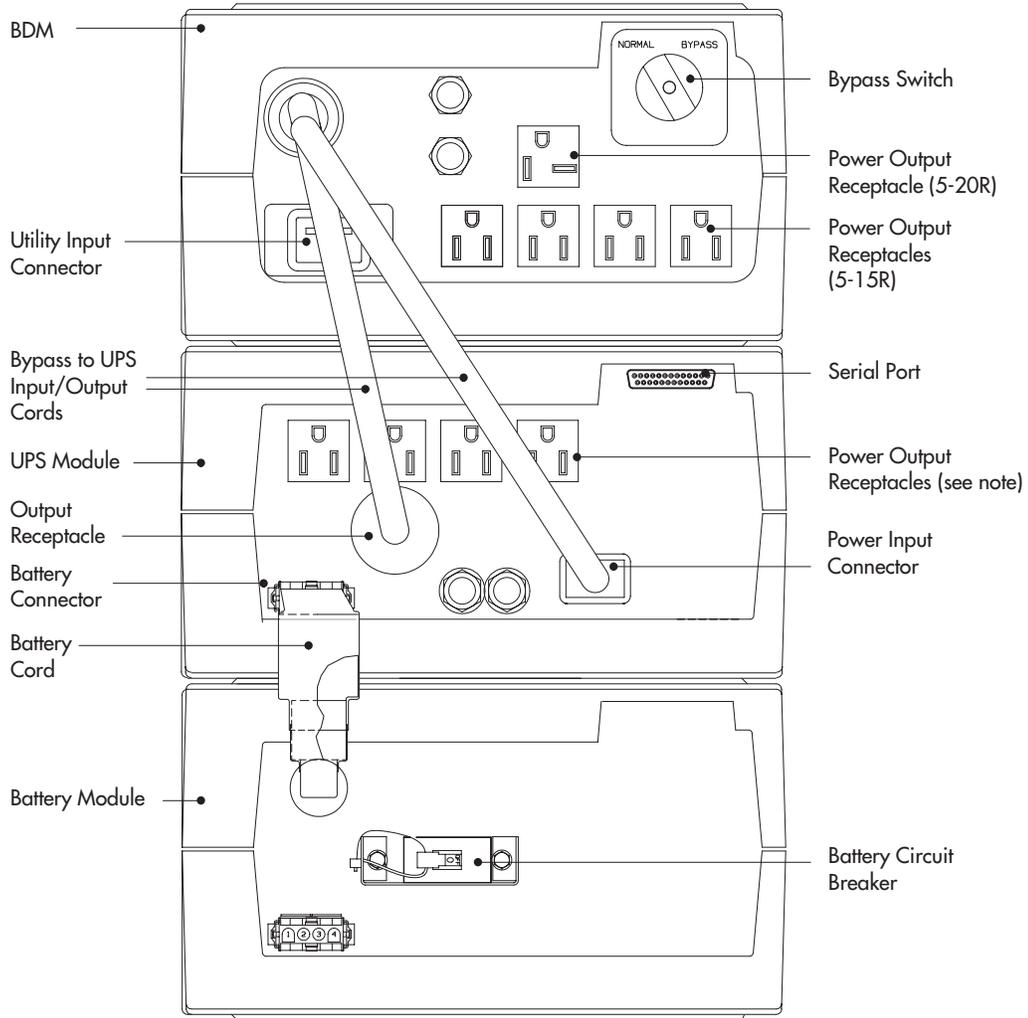

Figure 13. UPS with BDM Rear Panel
- 2** Turn the Bypass switch on the BDM to the BYPASS position (see Figure 13). The BDM is now powering your equipment from utility power.
- 5** Turn the circuit breaker on all battery modules to the OFF (O) position.
- 3** Plug the input and output cords of the BDM into the power connectors on the UPS as shown in Figure 13.